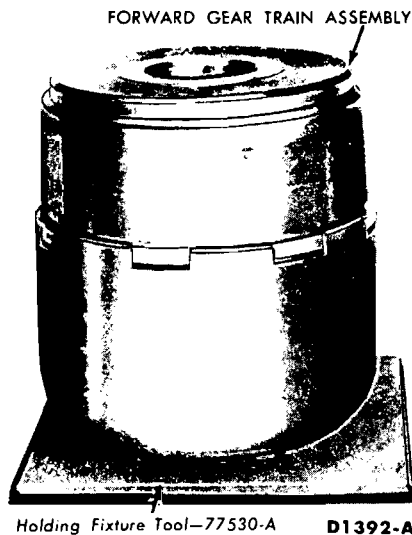

FIG. 47—Forward Part of Gear Train Positioned in Holding Fixture
6. Place the forward part of the gear train in the holding fixture shown in Fig. 47.
9. If thrust washer No. 3 (Fig. 47) did not come out with the forward clutch, remove the thrust washer from the forward clutch hub.